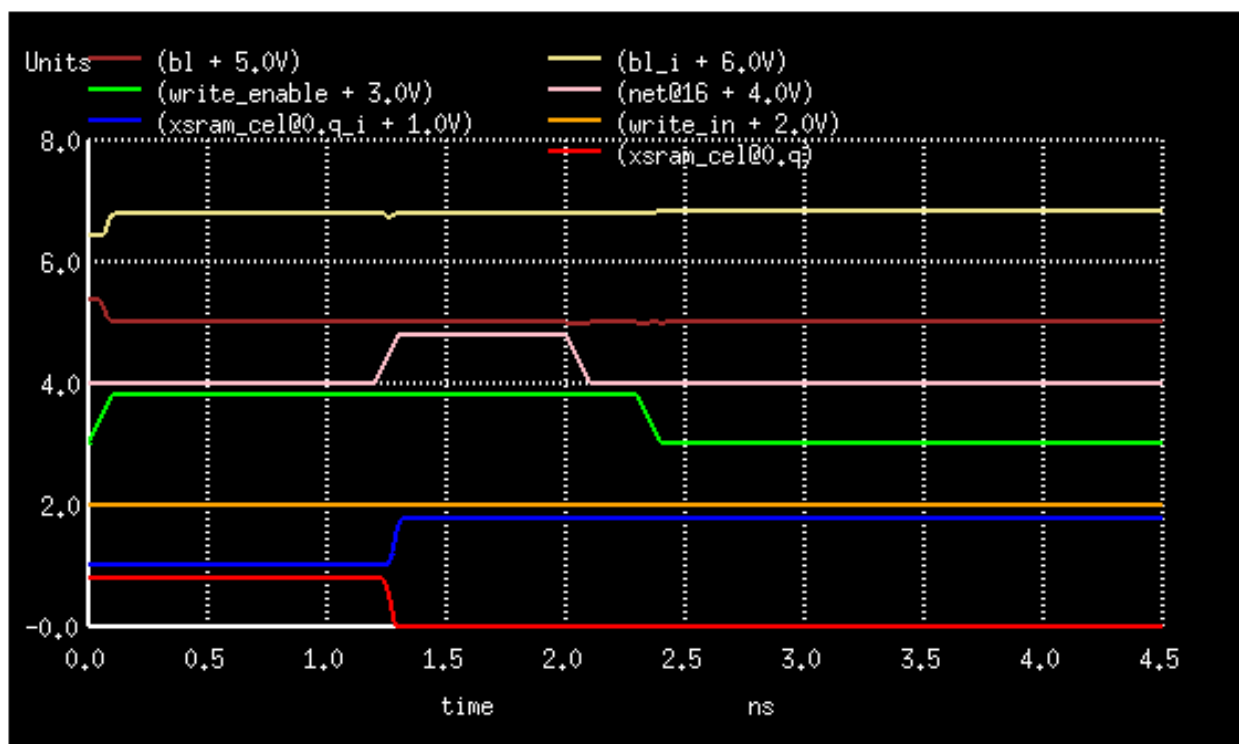

Figure 8: Writing 0
3. Writing a 0 to a cell with 1 (Figure 8). Since the cell already starts in a state in which Q is high and Q' is low, we only need to write a 1 to verify this case.